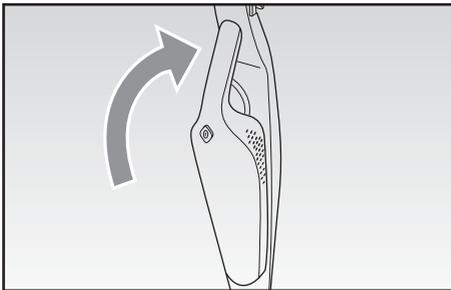

Fig. 10
- For positioning the handheld vacuum cleaner back into the appliance body (K), remove the installed attachment first, by removing it outward and then position the end of the dust container (F) in the lower side of the apposite housing in the appliance body (K) and slightly push backward the handheld vacuum cleaner until it clicks into place (Fig. 10).